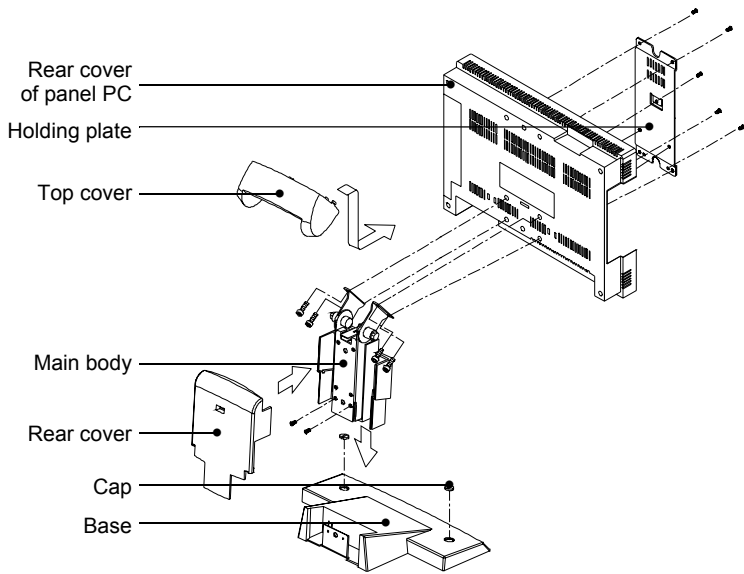

Figure E.4: Desktop stand mounting
2. Attach the holding plate of the stand to the inside of the rear cover of the panel PC using the five screws provided. (See Fig. E-4.)